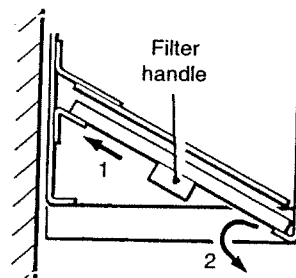

Fig. 7
To remove the filter, see Fig. 7. Slide it up towards the back of the unit (1) then slide the filter forwards and down out of the unit (2).
2. To remove the filter, see Fig. 7. Slide it up towards the back of the unit (1) then slide the filter forwards and down out of the unit (2). A small handle is moulded into each end of the filter to assist removal/replacement.